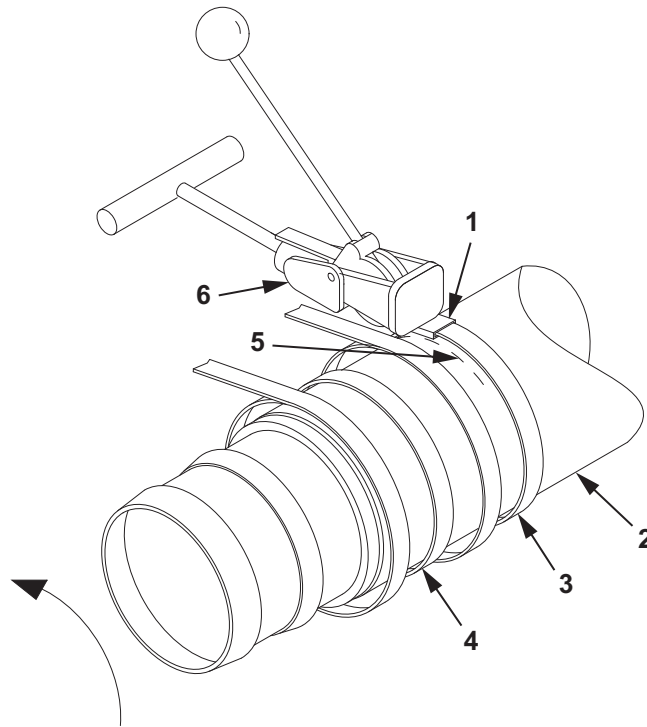

Figure 30. Hose Assembly Repair.
30. Position the third clamp (Figure 30, Item 4) on the hose assembly (Figure 30, Item 2) until it is positioned with a gap of 1/8–1/4 in. from the first clamp (Figure 30, Item 5).
31. Rotate the hose assembly (Figure 30, Item 2) until clamp buckle (Figure 30, Item 1) on the third clamp (Figure 30, Item 4) is oriented a minimum of 30° away from the clamp buckle on the second clamp (Figure 30, Item 3).
32. Using clamping tool (Figure 30, Item 6), tighten the clamp (Figure 30, Item 4) until almost flush with the hose assembly (Figure 30, Item 2) surface.